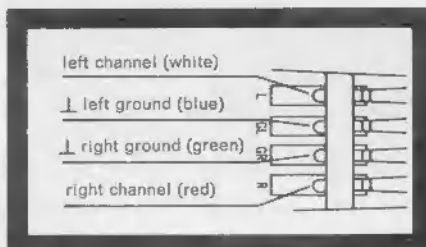

Fig. 16
4. Connect each lead on the cartridge holder to its corresponding pin on the cartridge. Each lead is color-coded as shown in fig. 16.